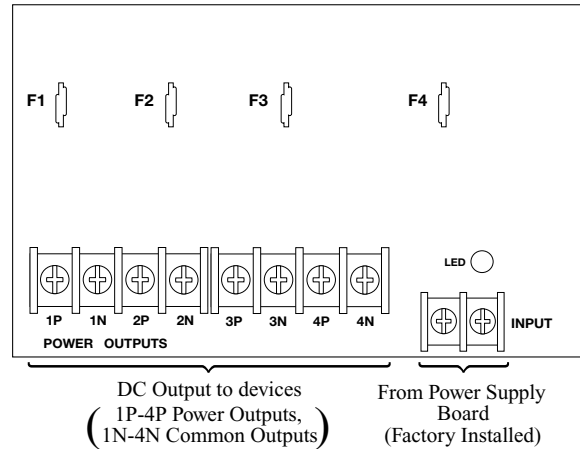

Fig. 3a
- b. For other Power Distribution Models: connect devices to be powered to the terminal pairs 1 to 4 marked [1P & 1N through 4P & 4N] (Fig. 2a & 2b, pg. 5) or 1 to 8 marked [1P & 1N through 8P & 8N] (Fig. 3a & 3b, pg. 5), carefully observing correct polarity.
6. For Access Control applications batteries are optional. When batteries are not used, a loss of AC will result in the loss of output voltage. When the use of stand-by batteries is desired, they must be lead acid or gel type. Connect one (1) 12VDC battery to the terminals marked [+ BAT -] for 12VDC operation. Use two (2) 12VDC batteries wired in series for 24VDC operation.